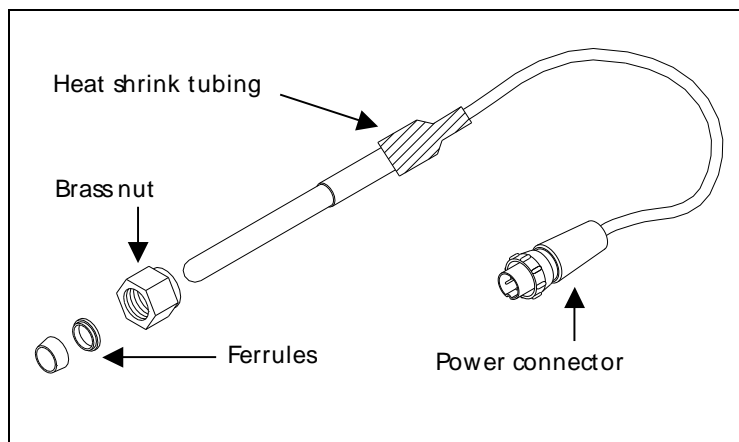
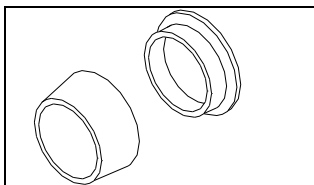

Figure 34: Relative Positioning of Components in the UV Lamp Assembly
Figure 35: UV Lamp Ferrule Orientation Detail
11. Slide the nut up the lamp housing (toward the connector cord), and then slide the ferrules up the lamp housing, until they are level with the black heat shrink tubing. Be careful when inserting the lamp into the Sensor as the nut and ferrules may slide off. Refer to Figure 34: Relative Positioning of Components in the UV Lamp Assembly and Figure 35: UV Lamp Ferrule Orientation Detail for proper orientation of the ferrules.
13. Tighten the brass-colored nut finger-tight. While tightening the nut, make sure the heat shrink tubing remains flush against the nut (Figure 34: Relative Positioning of Components in the UV Lamp Assembly). Do NOT use a wrench.